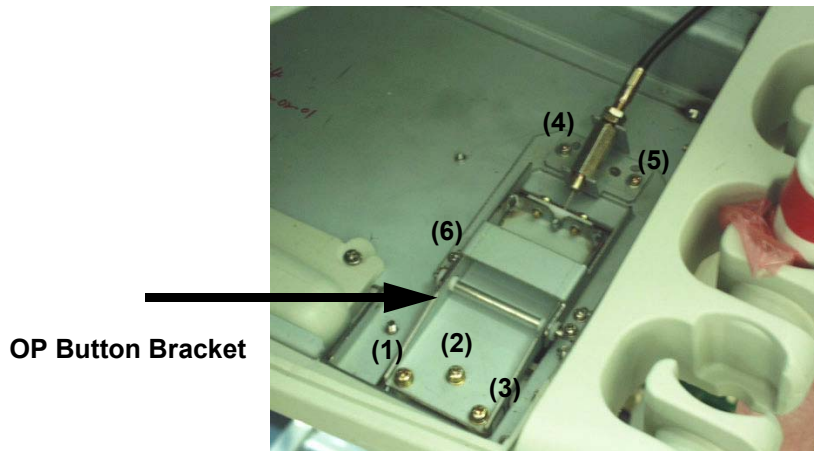

Figure 8-81 Unscrew 6 screws to remove BRKT
- 3.) Unscrew two (3) screws (4-6) to remove the OP button bracket. Refer to Figure 8-81 on page 8-62 .